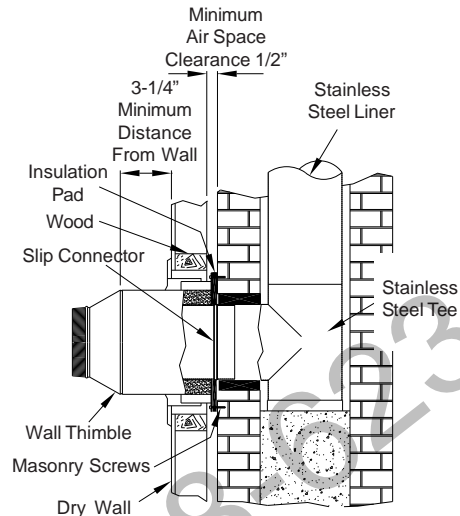

FIGURE 3
.1 Before commencing your installation, ensure that the combustible wall has a minimum air space clearance of at least 1/2" to the chimney wall (see figure 3 and 4).
d) Hold the thimble in position, drill 6 holes (use holes in flange for positioning) 1-1/2" deep with a 3/16" masonry bit into chimney wall and secure the thimble with the 6 supplied masonry screws (see figure 3).